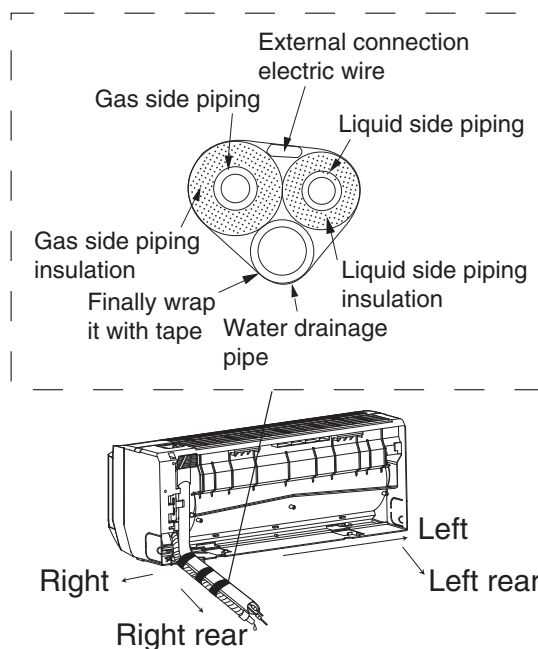

Fig.21
(As show in Fig.21)
5. Connect the refrigerant tubing to the outdoor unit. (After performing a leak test on the connecting part, insulate it with the tubing insulation. (Fig.21) Also, refer to Pg 29, (connecting tubing between indoor and outdoor unit).